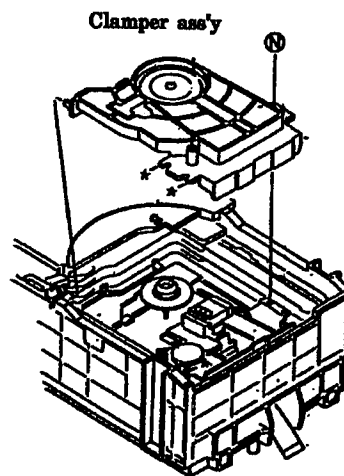

Fig.21
5. Remove a screw ④securing center of the clamper ass'y. (See Fig. 21)